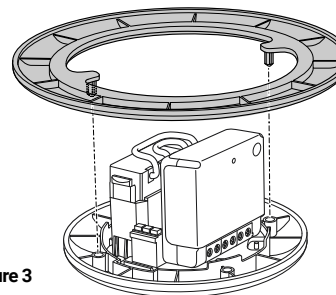

Figure 3
- 4 Assemble 120mm flange if required, see figure 3.